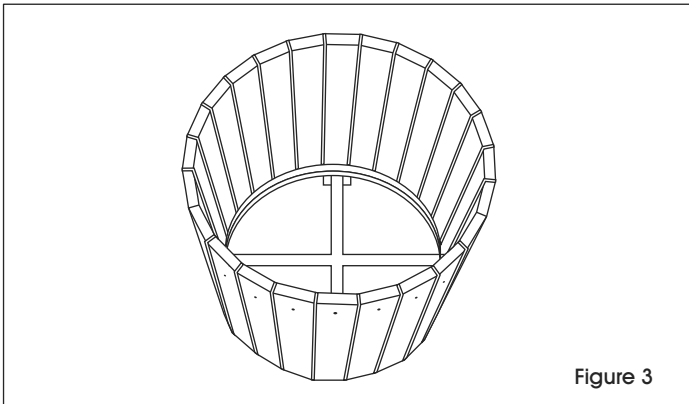

Figure 3
6. Repeat this process with each resinwood slat until all resinwood slats have been attached to the bottom ring. (See Figure 3)